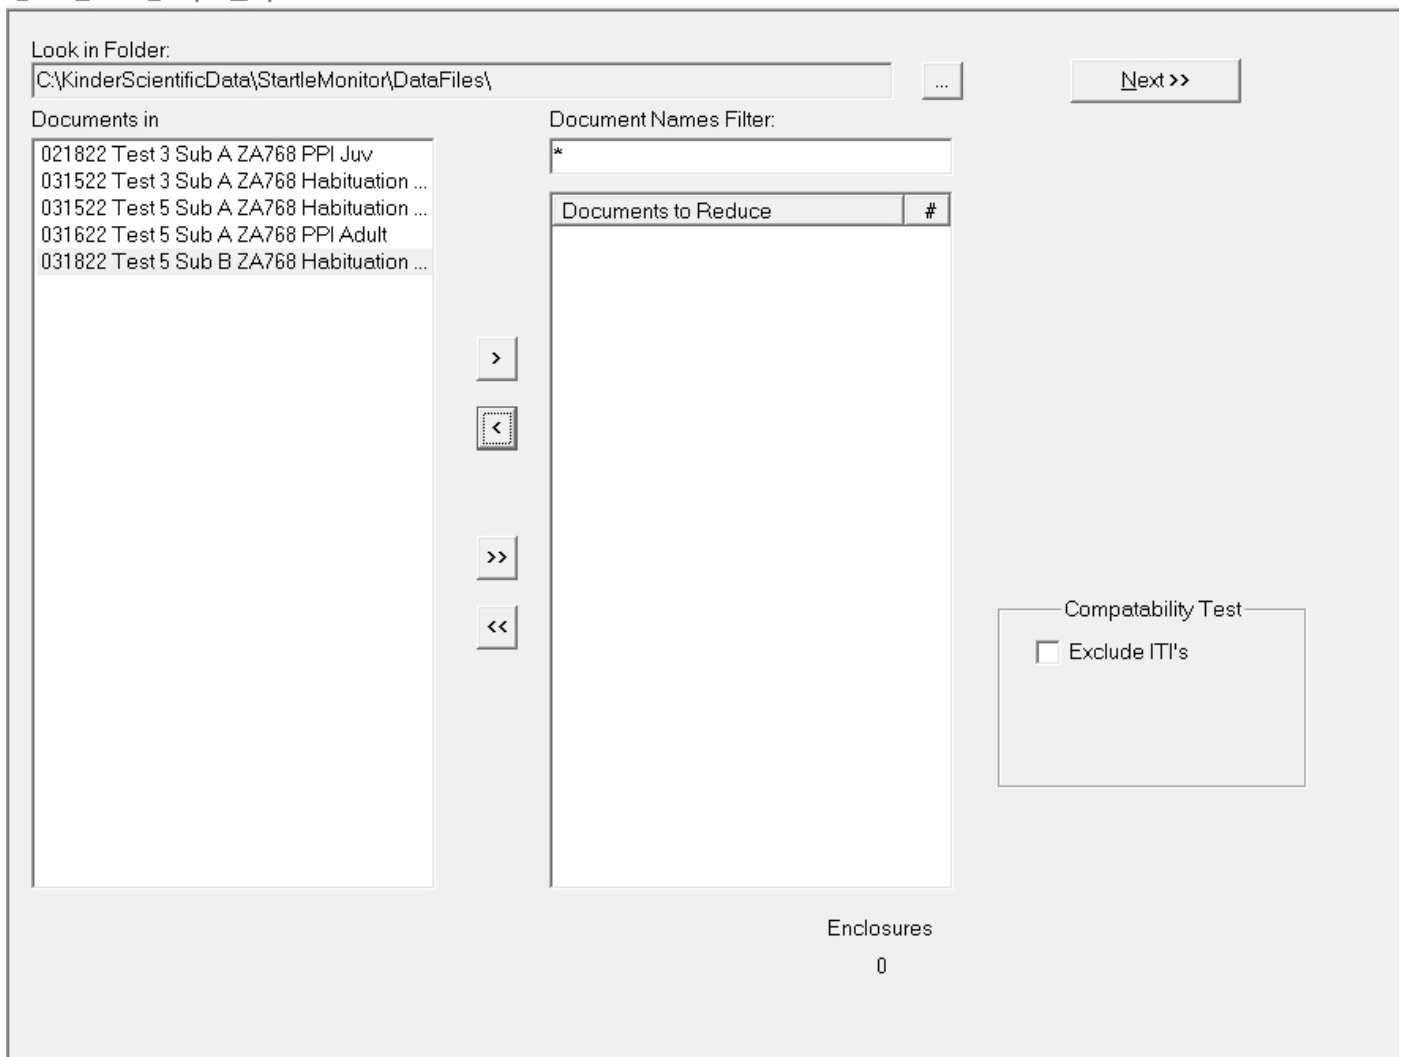

Figure 93 First Data Reduction Screen
1. Go to the first data reduction screen as shown below (Figure 93).